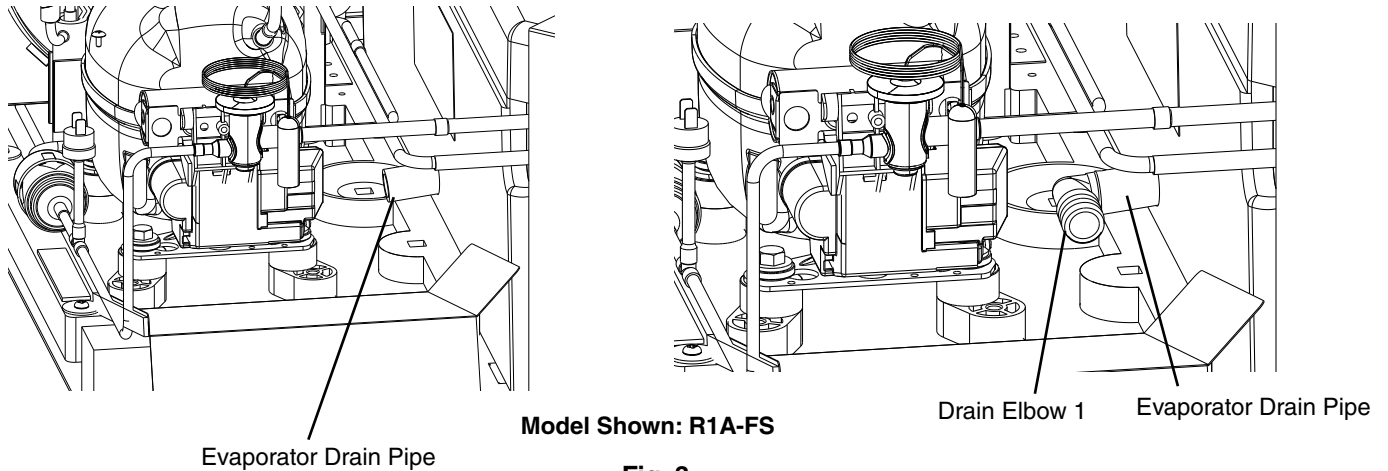

Fig. 3
5) Connect one end of a drain elbow provided in this kit, to the evaporator drain pipe. See Fig. 3. **NOTICE! Be sure drain elbow 1 is properly positioned on the evaporator drain pipe.**